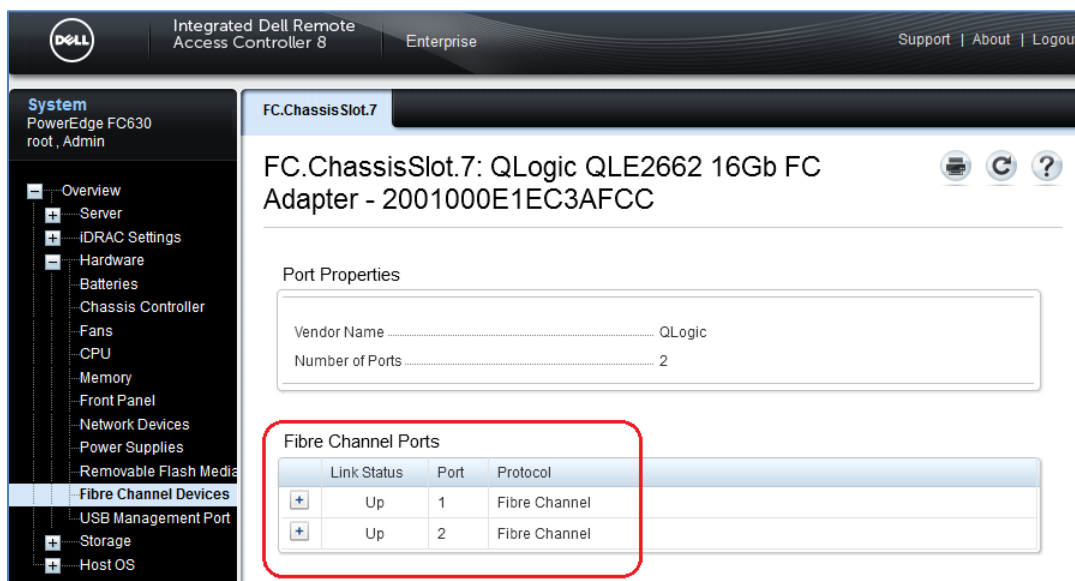

Figure 52 Fibre Channel Devices screen in iDRAC
3. The **Fibre Channel Ports** will be displayed as shown in Figure 52.